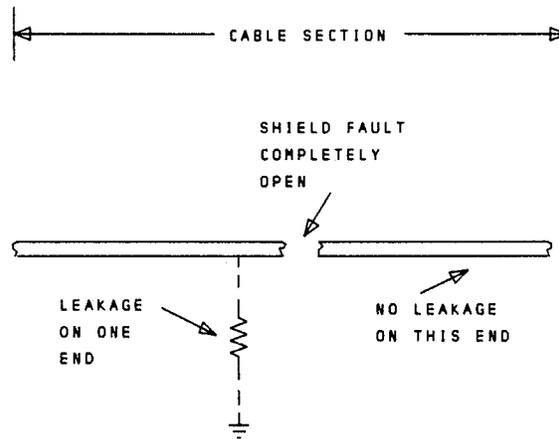

Fig. 5—Shield Fault—Leakage to Ground at One End
4.03 For the case where one end of the section has leakage to ground and the opposite end does not (Fig. 5), the low frequency test signal shall be applied at the end that contains no leakage and the shield grounded at the other end.